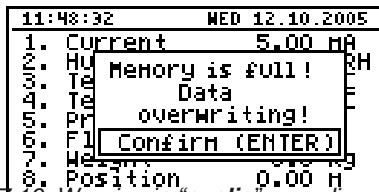

Fig. 7.16. Warning in "cyclic" recording mode
**"cyclic"** - after filling all the available memory with recorded measurement results, the measurement results recorded next will be written from the starting address in the memory, overwriting previously recorded data. During the first overwriting operation a warning message (Fig. 7.16) will be displayed; this message must be confirmed with the [ENTER] key. This warning shall be repeated when the unit is switched on. Instead of **"Time left"** parameter in the **"Device information"** menu the display will show the **"Data overwriting"** message.